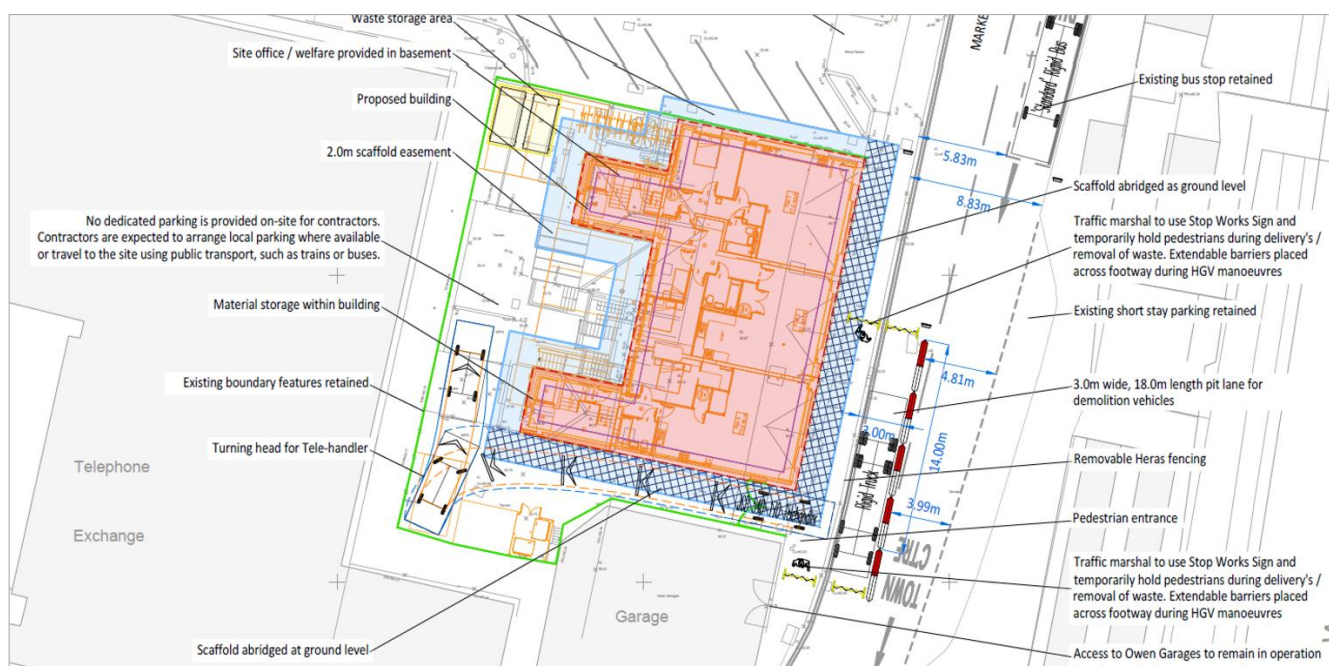

Figure 2.4: Phase 2 General Arrangement
- 2.5.3 As per the Phase 1 arrangement, Phase 2 would involve on / off-loading on Market Place to the east of the site. The general arrangement is shown in **Drawing 2024-6806-101** and **Figure 2.4**. The delivery area would take the form of a temporary pitlane utilised 09:30 – 16:00 and removed outside of working hours.